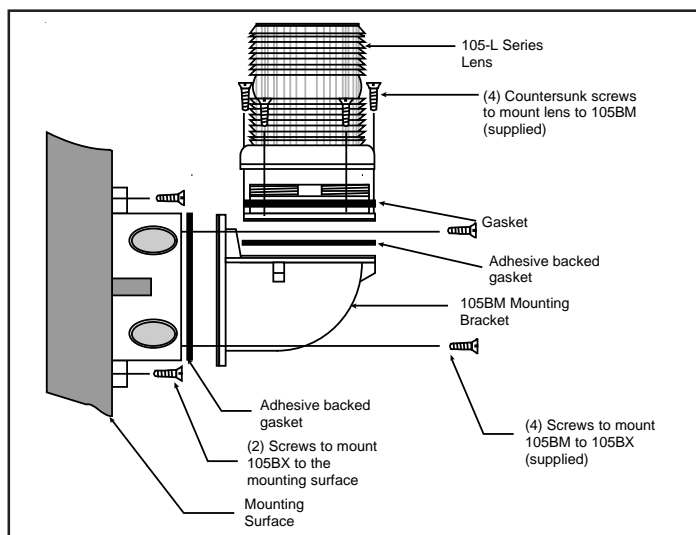

Figure 1. Mounting Cat. No. 105BM Mounting Bracket
NOTE: When mounting using the Cat. No. 105BM mounting bracket, the Cat. No. 105BX outlet box attachment must also be used as shown in Figure 1.
- b. **Cat. No. 105BM:** Using the four supplied screws, secure the mounting bracket to Cat. No. 105BX outlet box attachment as shown in Figure 1. Attach the adhesive backed gasket to the top of the 105BM mounting bracket, being careful to line up the holes in the gasket with the mounting holes in the outlet box.